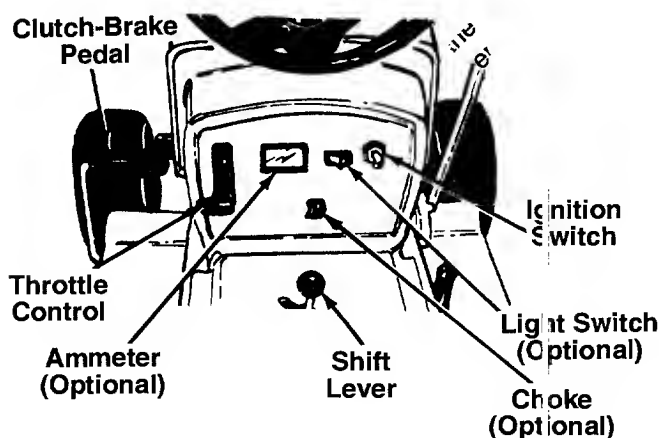

FIGURE 9.
The throttle control is used to regulate the engine speed. To get maximum efficiency from cutting, the throttle should be in the FAST position when operating the mower. See figure 9.
The choke control is located on the dashboard and is operated manually. Details for the choke operation are covered in the separate engine manual packed with your unit. See figure 9.
Turn the key to the START position to start the engine. When the engine is running, let the key return to the ON position. To stop the engine, turn the key to the left to the OFF position and remove it to prevent accidental starting. See figure 9.
The ammeter registers the rate of battery charge or discharge. The ammeter will register on the discharging side when starting the engine. It should register on the opposite side (charging) when the engine is running in the fast position until the battery is completely charged. With a fully charged battery or with the engine idling, the ammeter will not show a charge. See figure 9.
The clutch-brake pedal is located on the left side of the lawn tractor. Depressing the clutch-brake pedal part way disengages the clutch. Pressing the pedal all the way down disengages the clutch and engages the disc brake. See figure 9.
3. Set the throttle control in the FAST position. See figure 9.
5. Turn the ignition key to the START position. When the engine is running, let the key return to the ON position. See figure 9.